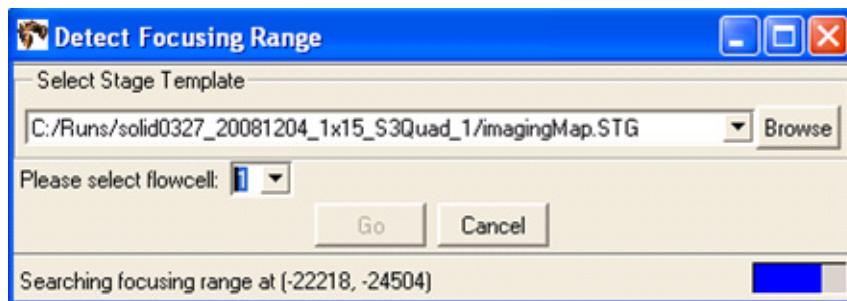

Figure 40 Detect Focusing Range Dialog while detection in progress.
4. Select the flowcell using the drop-down menu, then press **Go**. The Imager works for several minutes while it determines the range. The blue progress bar indicates how close it is to completion (see Figure 40). You can also click **Cancel** so that the Imager aborts the ranging operation.